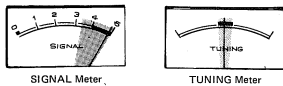

Fig. 8
3. Select station by turning TUNING knob. Station is properly tuned-in when the SIGNAL meter needle is deflected a maximum to the right, and the FM TUNING meter needle points to the center (Fig. 8).